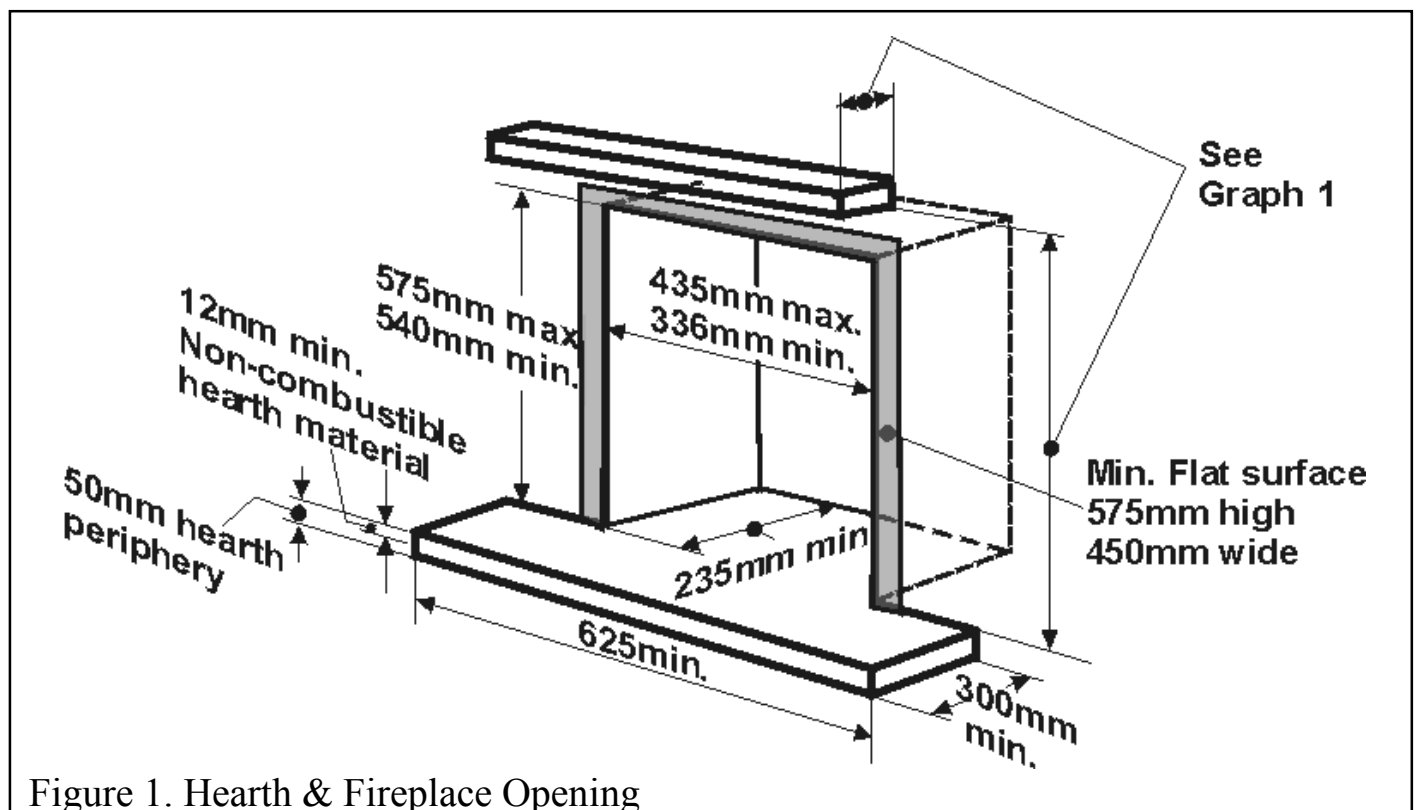
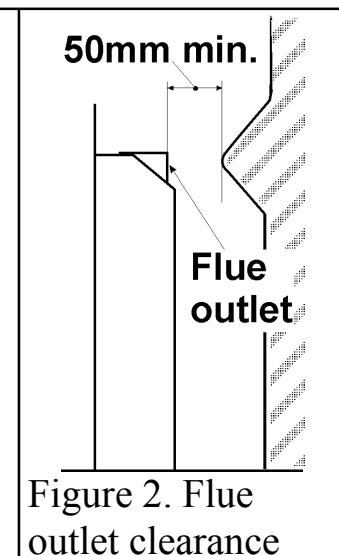

Figure 1. Hearth & Fireplace Opening
Figure 2. Flue outlet clearance
2.7 The minimum height required from the top surface of the hearth to the underside of any shelf made from wood or other combustible materials (See figure 1) is shown in graph 1.
2.9.1 To a fireplace complying with BS1251 complete with surround and hearth as shown in figure 1. Removal of the fireback and sufficient material behind the fireback may be required to give the necessary debris catchment space. Alternatively, a spacer or surround may be used to provide the required depth. The free distance from the appliance flue outlet to a fireback knee or other projection in the fireplace must be at least 50mm (See figure 2).
2.16 The appliance must be mounted behind a non-combustible hearth in accordance with figure 1. (N.B. conglomerate marble hearths are considered as non-combustible). The hearth material must be at least 12mm thick. The periphery of the hearth (or fender) should be at least 50mm above floor level to discourage the placing of carpets or rugs over it. The appliance must not stand on combustible materials or carpets.